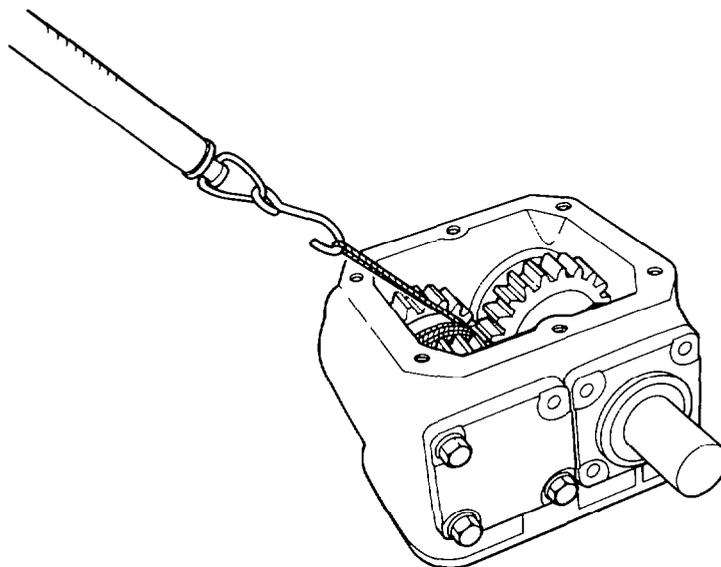

Fig. 401 — Checking Countershaft Bearing Preload
- h. Check the bearing preload of the countershaft while torquing the bearing cover plate retaining bolts. The preload should be 18 N (4 lb.) when pulling on the spring scale with an even, steady pull (see fig. 401). If necessary, add or remove shims to obtain the correct preload. Torque the retaining bolts to 34 - 38 Nm (25 - 28 lb.ft).